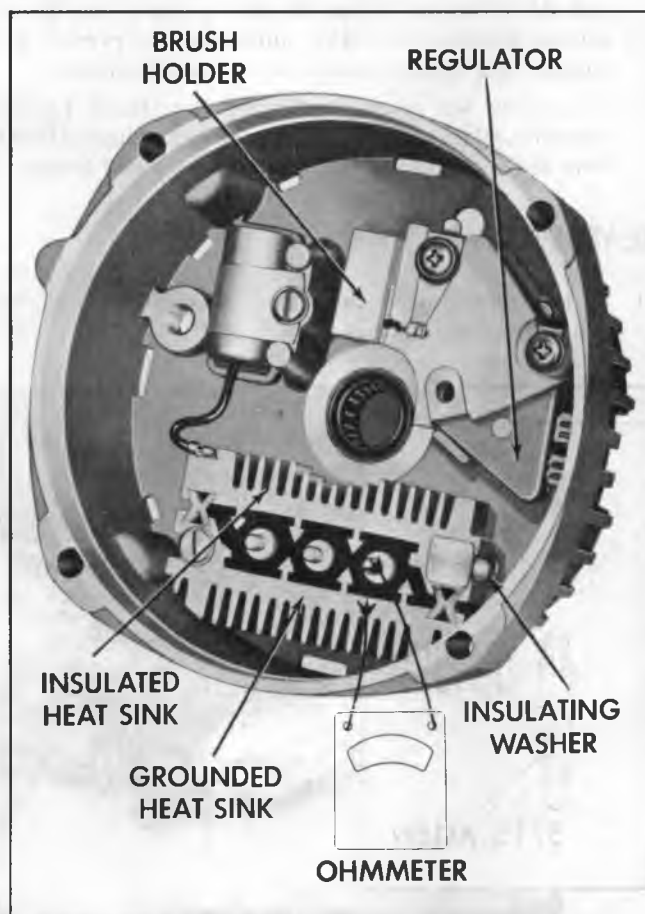

Fig. 6C--Rectifier Bridge Checks
8. Remove retaining screw and capacitor from end of frame (fig. 6C).
### Rectifier Bridge Check (fig. 6C)